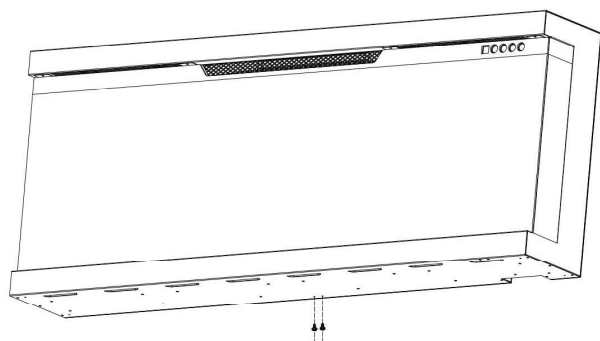

Fig 1-1
A.Remove the silver screw at the bottom of the appliance. **(Fig 1-1)**. Set the screw aside.